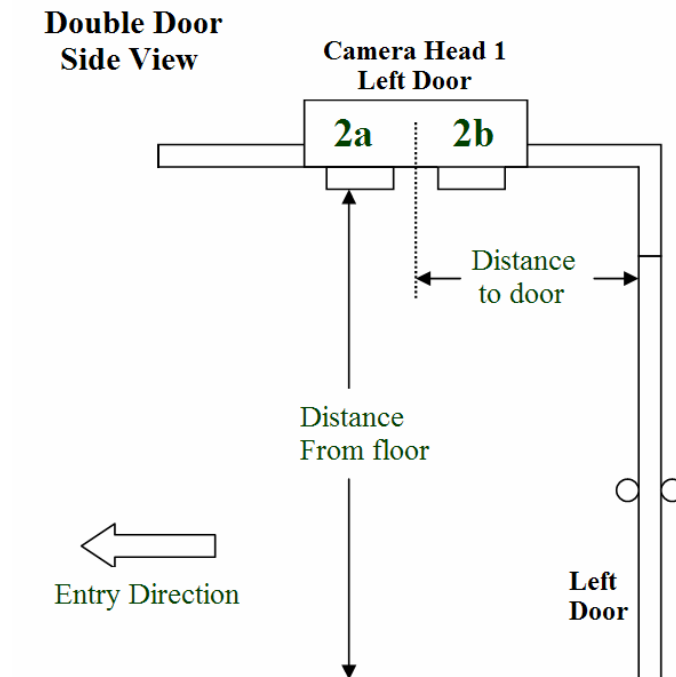

Figure 16a Stereo Tracking Head Reference
*Please see figure 16a and 16b for Installation Guidance*
1. Ensure that the stereo tracking heads are mounted at the correct locations according to the chart in Figures 16a-16b. Camera head 1 should be on the secure side of the left door and camera head 2 should be on the secure side of the right door (on entry).
7. For both Camera Heads 1 and 2, ensure Camera b (2) is closest to the door and Camera a (1) is further from the door.